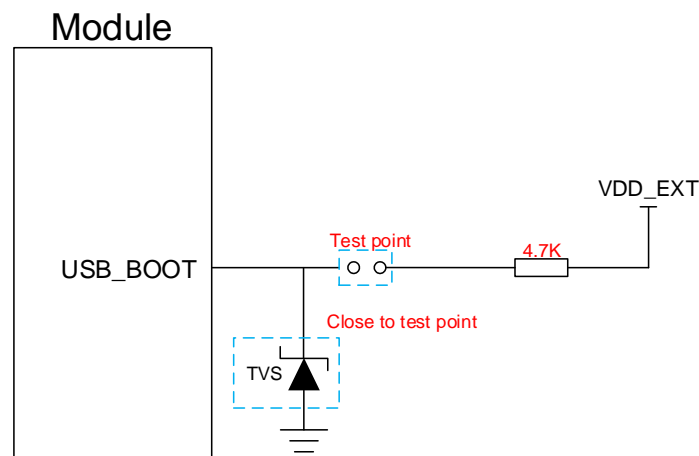

Figure 28: Reference Circuit of USB_BOOT
2. Follow the above timing sequence when using MCU to control the module to enter the emergency download mode. Do not pull up USB_BOOT to VDD_EXT or external MCU controlling pin before powering up VBAT. Directly connect the test points as shown in **Figure 28** can manually force the module to enter emergency download mode.